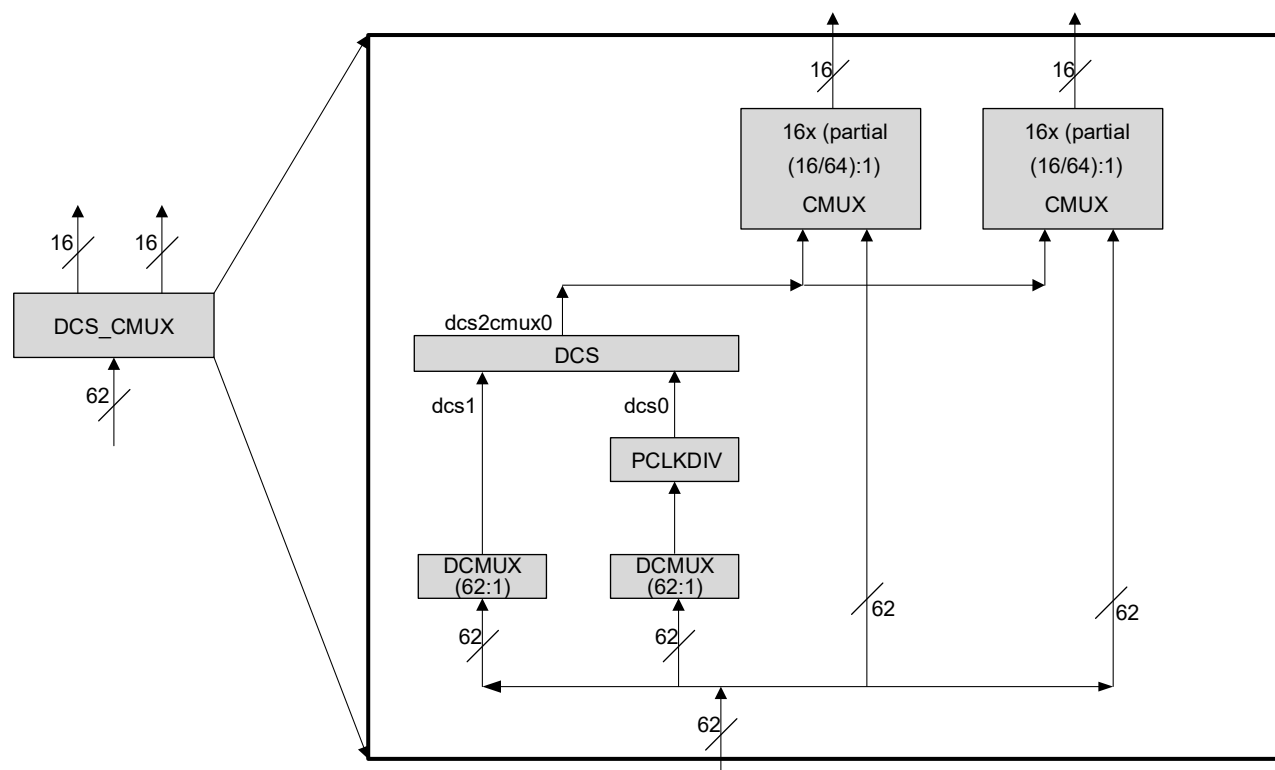

Figure 2.9. DCS_CMUX Diagram
All clock sources are selected and combined for primary clock routing through the Dynamic Clock Selector Center Multiplexer logic (DCS_CMUX). There are one (1) or two (2) DCS_CMUX blocks per device. Each DCS_CMUX block contains 2 DCSMUX blocks, 1 PCLKDIV, 1 DCS block, and 1 or 2 CMUX blocks. See Figure 2.9 for a representative DCS_CMUX block diagram.